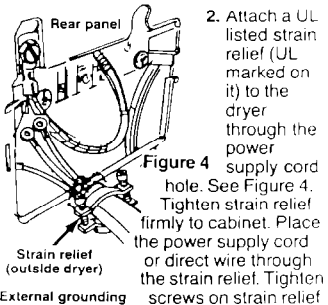

Figure 4
2. Attach a UL listed strain relief (UL marked on it) to the dryer through the power supply cord hole. See Figure 4. Tighten strain relief firmly to cabinet. Place the power supply cord or direct wire through the strain relief. Tighten screws on strain relief.
6. Tighten strain relief clamp on power supply cord. See Figure 4.
7. Tighten strain relief clamp on power supply cord. See Figure 4.